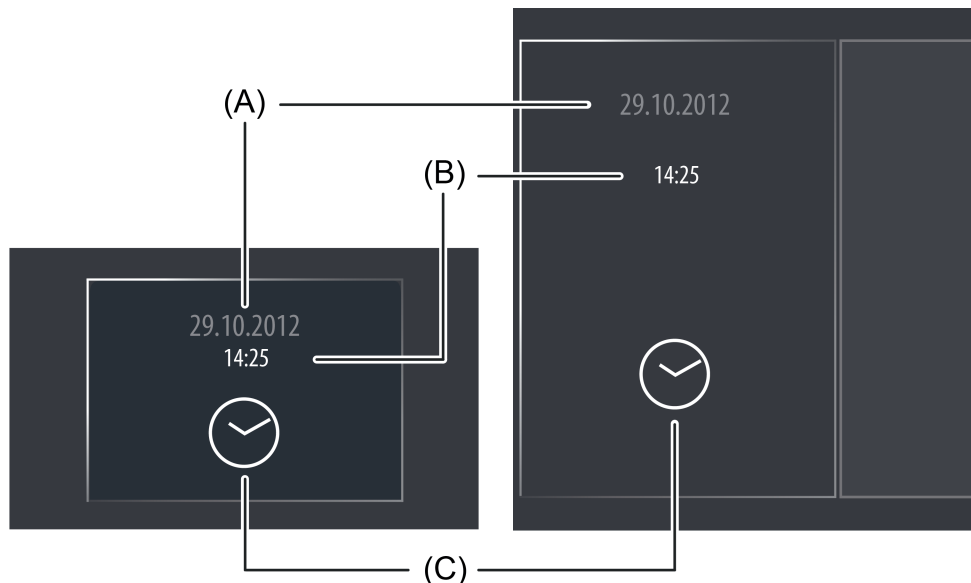

Figure 44: Example of a display element of the function "Date / Time"
The display area contains different display elements (figure 44) that are influenced by parameters. The date (A) can be displayed above or below the time (B). This defines the parameter "Date time format". Optionally, it is also possible just to display the date or time. The parameters "Date display format" and "Time display format" define the format of the display elements and make it possible to adapt the date and time display to international systems. In the lower display area a clock icon (C) is statically displayed.